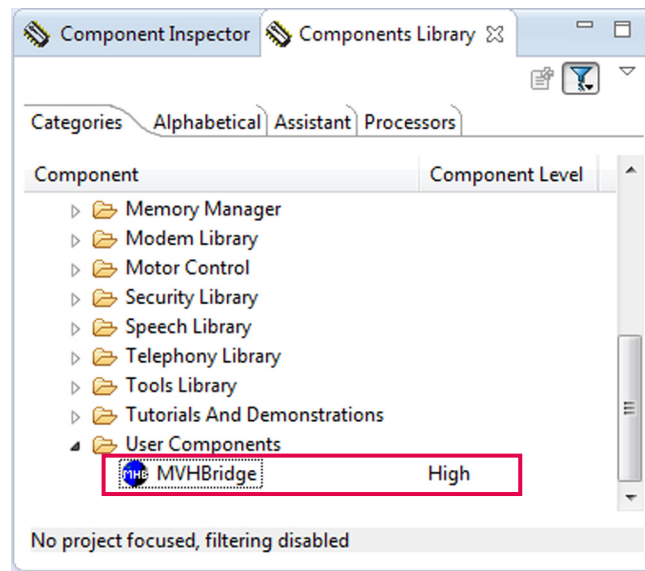

Figure 13. MVHBridge component location after CodeWarrior import
2. If import is successful, then the MVHBridge component is in the 'Components Library -> Your Repository -> SW -> User Components (see Figure 13).